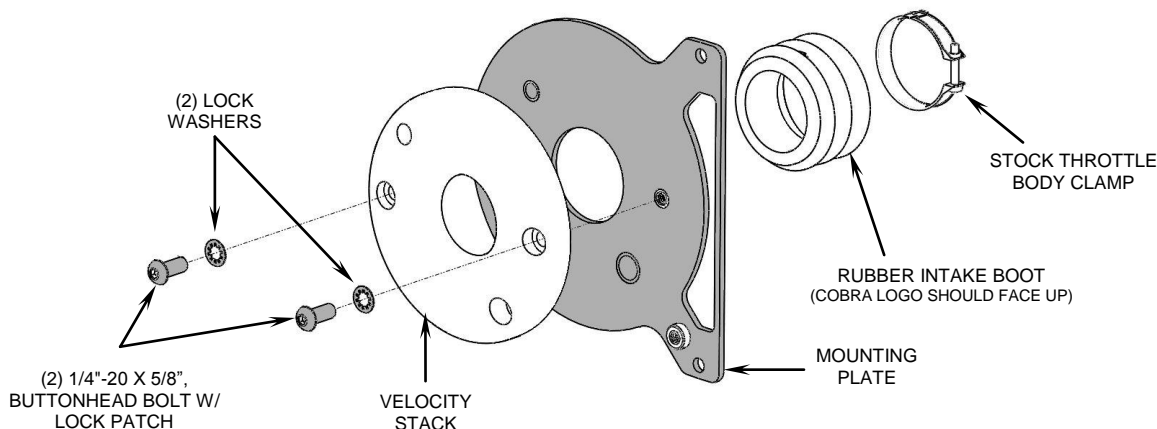

FIGURE 1
1. Remove the (2) bolts that secure the stock air cleaner to the cylinder heads; these bolts and the steel bushings will not be reused.
4. Using the (2) supplied 1/4"-20 X 5/8" buttonhead bolts and lock washers, assemble the velocity stack, mounting plate and rubber intake boot in the order shown in Figure 1. NOTE: The rubber boot lip needs to be sandwiched between the velocity stack and the mounting plate.
5. Remove the throttle body hose clamp from the stock boot and slide it onto the supplied rubber intake boot; position it as shown in Figure 1.